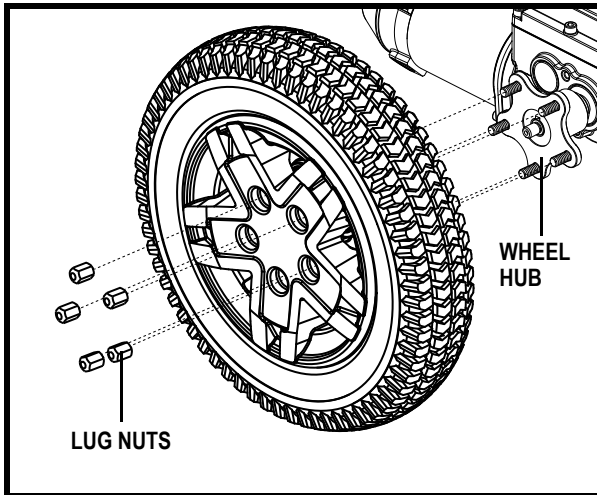

Figure 21. Q6 Edge Drive Wheel
4. Remove the (5) lug nuts from the wheel hub. See figure 21.